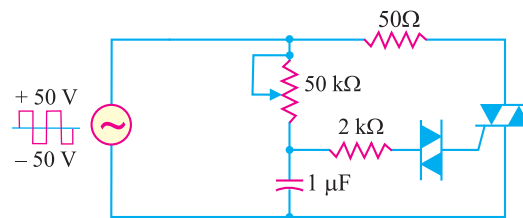

Fig. 21.35
- If the triac of Fig. 21.35 has  $1\text{ V}$  across it when it is conducting, what is the maximum current through the  $50\Omega$  ?